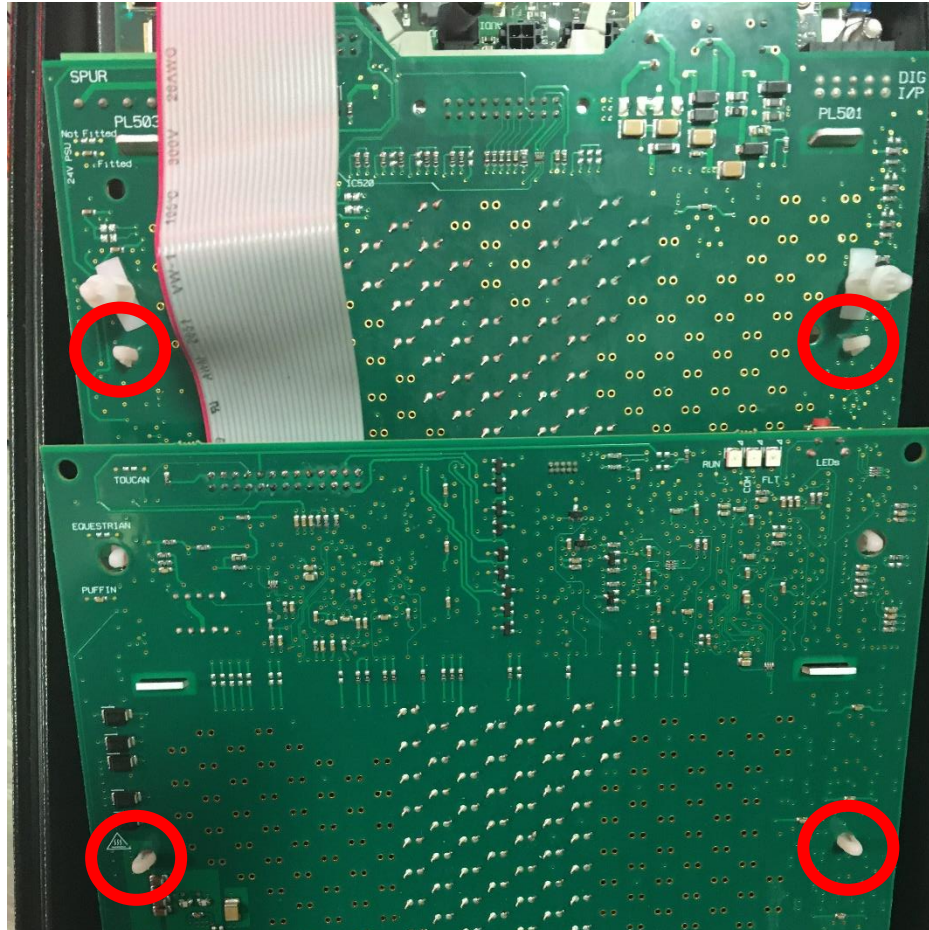

Figure 79 : Nearside Indicator with Fixings Identified.
3. Release the Double stacked PCB by releasing the 4 fittings identified below. The top fixings indicated have small release levers, the bottom fixings are friction only. Remove the Red indicator PCB section first (bottom half of picture in Figure 79 below) and then remove the Green section which lies partially underneath the Red section.